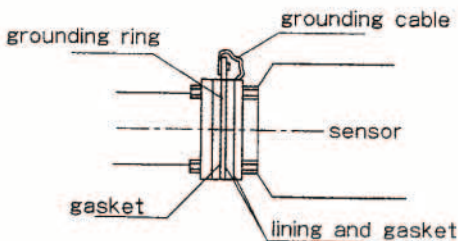

Figure 17. Connection for a non-inductive pipe
- b) For the non-inductive pipe, the grounding rings should be installed between the both flanges for sensor and the both flanges for pipe. See figure 17.